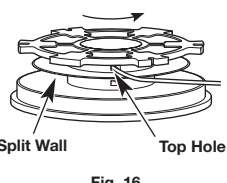
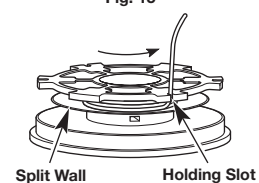

Fig. 16
Fig. 17
2. Insert the end of one line into the top hole in the inner reel (Fig. 16). Wind the line tightly in the direction shown on the bottom of the inner reel until about 6 inches (150 mm) of line remains. Keep the line above the split wall. Insert the 6-inch section into the nearest .095 holding slot (Fig. 17).